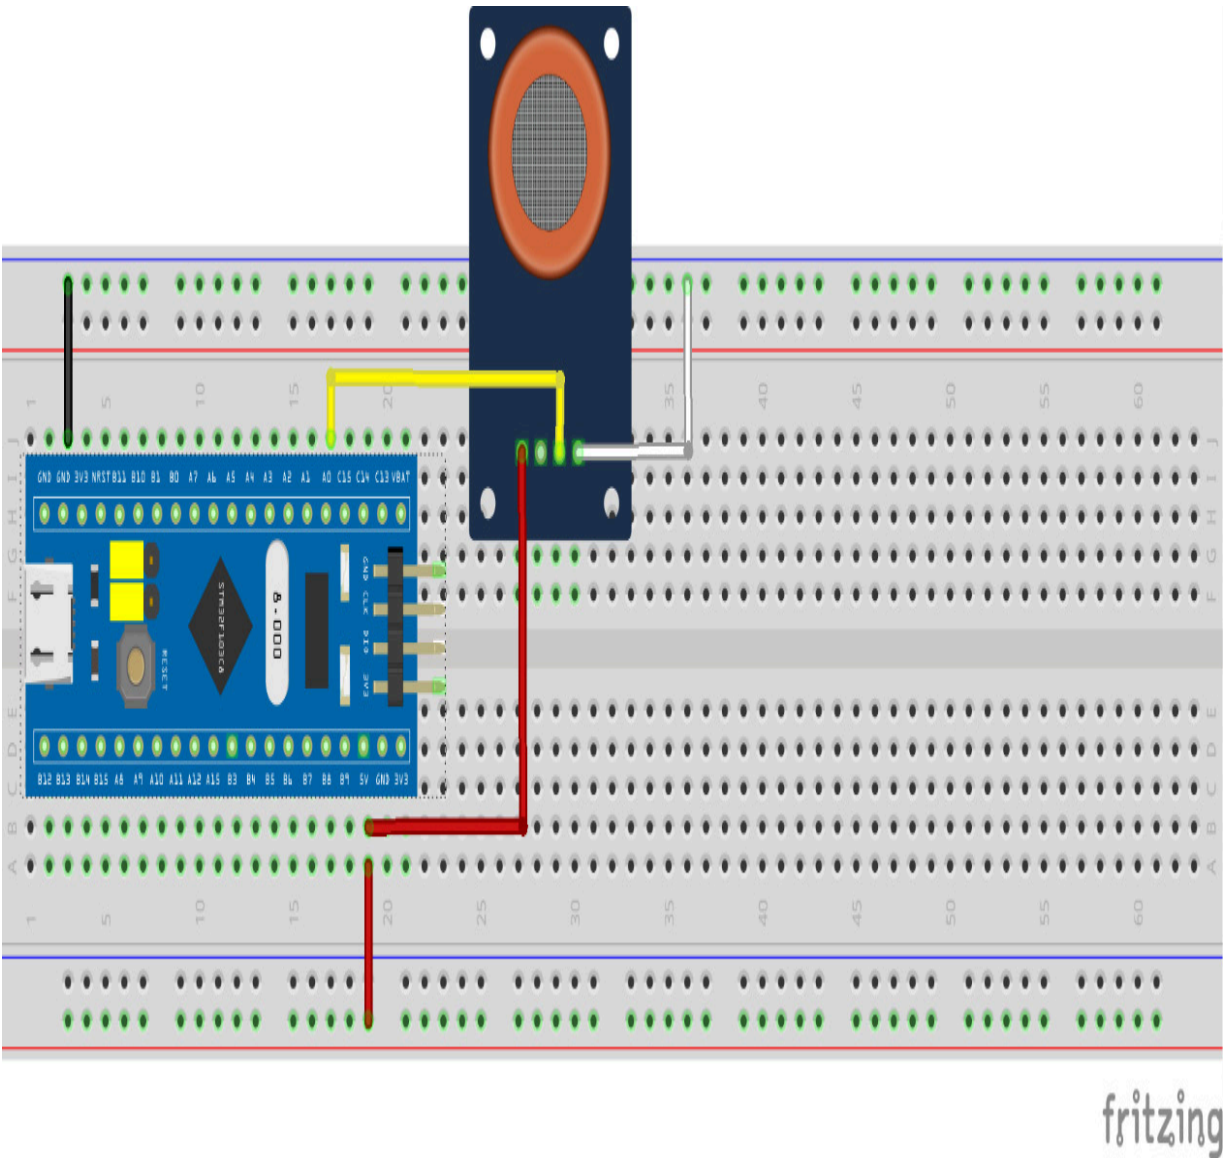

Figure 8.9 – Circuit for the MQ-2 sensor connection for analog reading
*Figure 8.9* summarizes all the hardware connections: